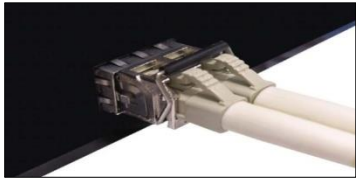

Figure 3
2. Insert the fiber cable of the LC connector into the transceiver as shown below in *Figure 3*.